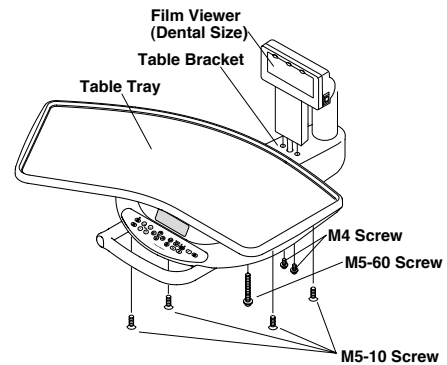

Fig.6-25 Fixing Film Viewer and Table Tray
(Fig.6-25)
and 1 x M5- 60 screw. (Fig.6-25)
(1) Removing Doctor Table Top (Fig.6-25)